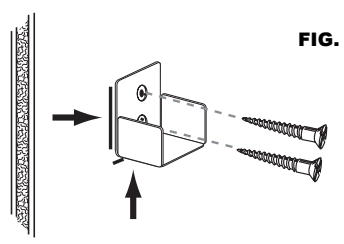

FIG. 5.3
- Remove shelf and place bracket on lines drawn to mark screw hole location. Attach bracket using #8 1 1/2" screws (Fig. 5.3). Use supplied plastic wall anchors if no stud is present.